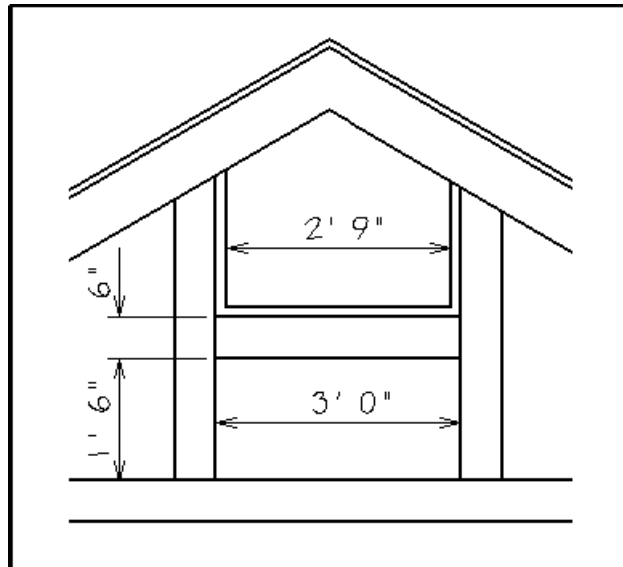

Figure P12-7 Garage vent detail
STEP 4: Use Figure P12-7 as a guide to draw the garage attic vent.